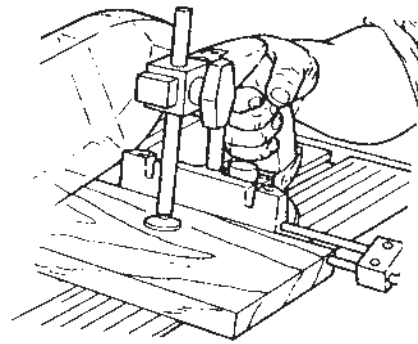
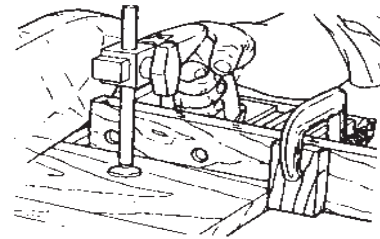

Figure C-3
Figure C-4
8. To cut short lengths, use a miter gauge stop rod. See Figure C-3. Or clamp a stop block to a miter gauge extension. See Figure C-4.